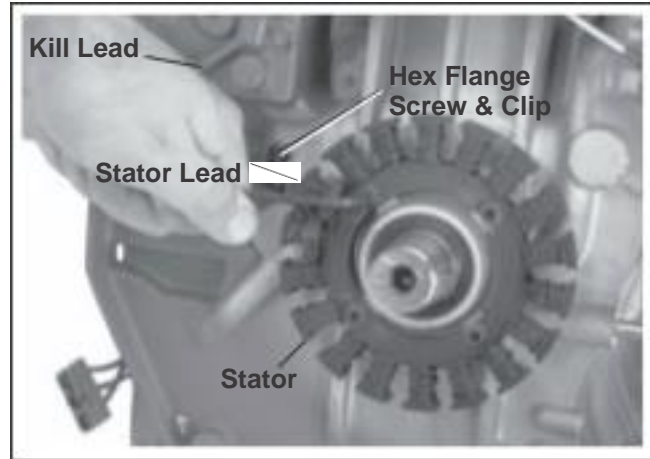

Figure 11-24. Installing Stator.
1. Position the stator leads toward the hole in the crankcase. Insert the stator leads through the hole to the outside of the crankcase. See Figure 11-24.